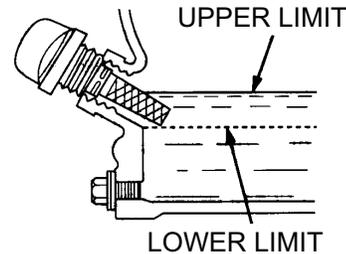

**Figure 5. Engine Oil Dipstick (Removal)**
2. Remove the filler dipstick from the engine oil filler hole (Figure 5) and wipe it clean.